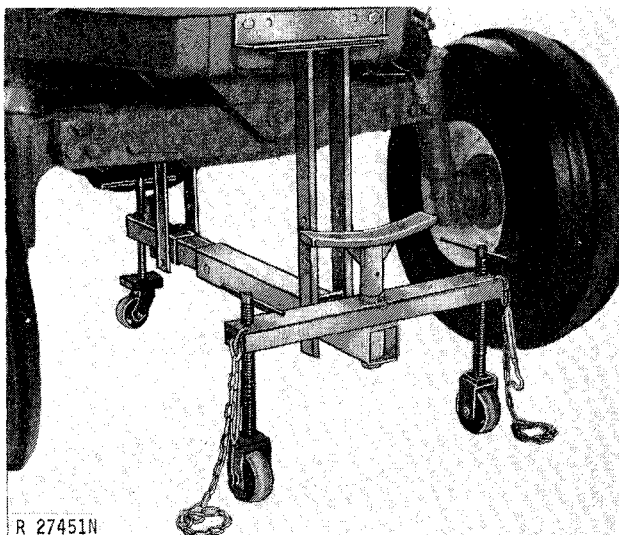

Fig. 41-Attaching Splitting Stand
- 35. Attach JDG-12-1 Splitting Stand with Attachments to tractor (Fig. 41).